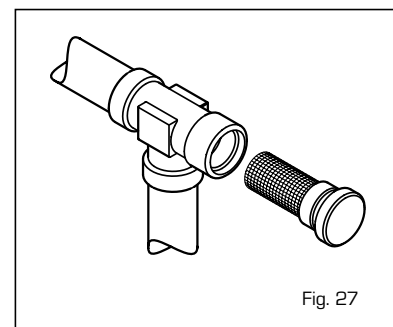

Fig. 27
4.6.3 Cleaning the "Aqua Guard Filter System" (fig. 27)